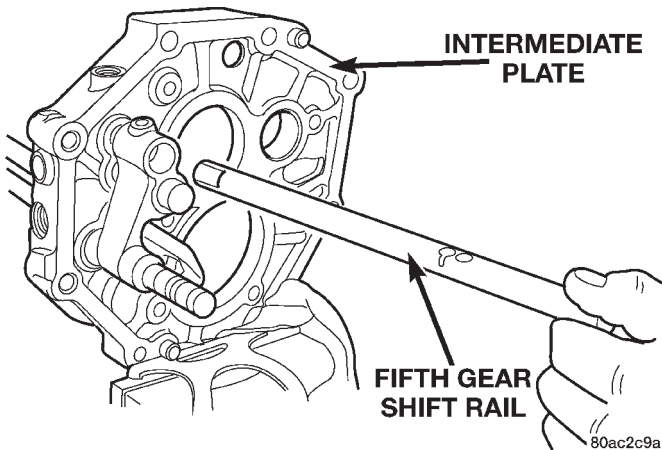

Fig. 84 Install Fifth Gear Shift Rail
(13) Install fifth gear shift rail (Fig. 84).
(14) Remove the intermediate plate from the vise, rotate the plate 180°, and reinstall the plate in the